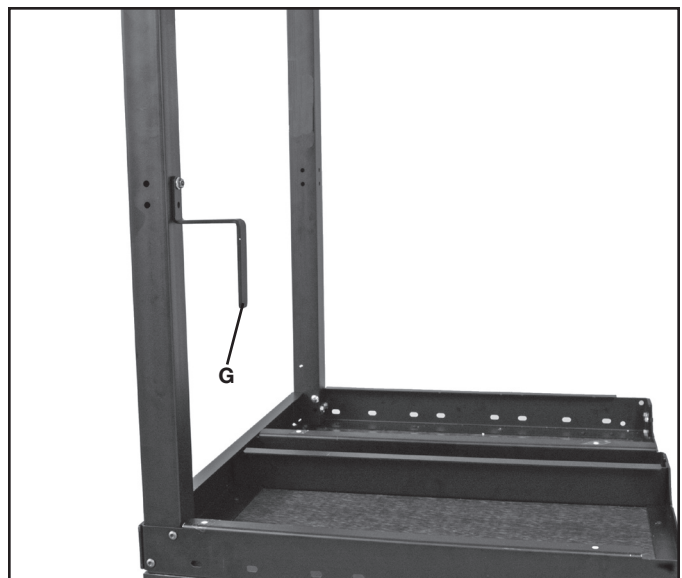

FIG. 4
Attach the two fence holders — one shown at (G) Fig. 4— to legs using four 1/4-20 x 2-1/2" (63.5 mm) hex socket button head cap screws and four 1/4-20 flange nuts (F).
NOTE: If you are installing the accessory storage drawer to the table for the 36" fence, the fence holders need to be installed on the opposite side of the leg from that shown in Fig. 4. The holder needs to be to the outside, so when turned right side up it will not be under the table board.